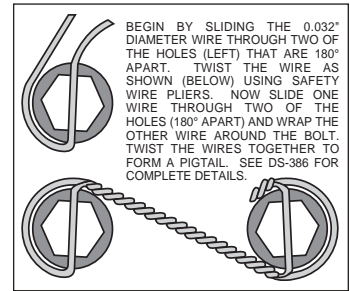
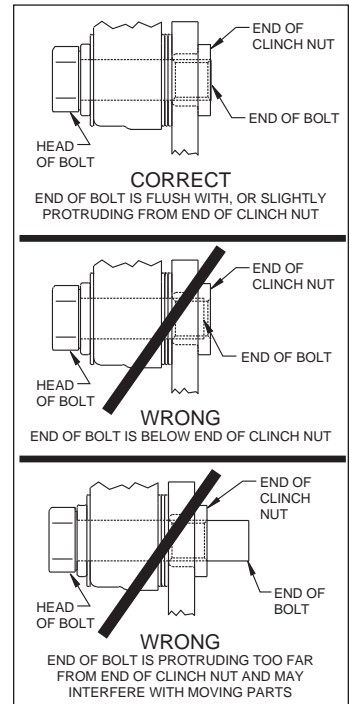

Figure 3. Safety Wire Diagram
Figure 4. Clinch Nut Engagement Diagram
Assembly Instructions (numbers in parenthesis refer to the parts list on the preceding page and Figure 1): **CAUTION:** All mounting bolts must fully engage clinch nuts. Be sure to check that all bolts are either flush or protruding through flanged side of clinch nut after shimming, Figure 4.
•Install the grease seal (11) by pressing into the backside of the hub (9), flush with the end of the hub, Photo 2.
•Orient the rotor (13) and the rotor adapter (12) as shown in Figure 1 and Photo 3, with the flat side of the rotor mounted to the rotor adapter. Attach the rotor to the adapter using bolts (14). Using an alternating sequence, apply red *Loctite*® 271 to the threads, and torque to 25 ft-lb. For an added measure of security, the bolts may be safety wired using standard 0.032 inch diameter stainless steel safety wire as shown in Figure 3. Please refer to Wilwood's data sheet DS-386 (available at www.wilwood.com/Pdf/DataSheets/ds386.pdf) for complete safety wire installation instructions.
- Pack the small outer bearing cone (16) with high temperature disc brake bearing grease and install into hub (9). Slide the hub/rotor assembly onto the spindle. Secure using spindle washer (24) and OEM spindle nut, Photo 5. Adjust bearings per OEM specifications. Install saved OEM nut lock (if any) and a new cotter pin (not supplied).
- Screw dust cap (18) into hub (9), Photo 6. Friction created by the o-ring (17) on the dust cap keeps it from unscrewing. **NOTE:** The O.D. of the existing OEM spindle washer may be larger than the I.D. of the dust cap not allowing it to seat against the hub face. Therefore, use the spindle washer (24) supplied with the kit instead of the OEM washer.
- NOTE:** Please reference the caution statement at the beginning of the assembly instructions. Mount the caliper (19) onto the caliper mounting bracket (1) using bolts (21) and washers (20), as shown in Figure 1. Initially place one .035" thick shim (22) on each bolt between the caliper and the bracket, Photo 7. Temporarily tighten the mounting bolts and view the rotor (13) through the top opening of the caliper. The rotor should be centered in the caliper, Photo 8. If not, adjust by adding or subtracting shims between the bracket and the caliper. Always use the same amount of shims on each of the two mounting bolts. **NOTE:** The end of each bolt must be flush with or slightly protruding from the head of the clinch nut, as shown in Figure 4. If necessary place spare shims between washer (20) and caliper mounting ear to achieve the proper clinch nut engagement. Once the caliper alignment and clinch nut engagement are correct, remove the bolts one at a time, apply red *Loctite*® 271 to bolt threads, and torque to 40 ft-lb. For an added measure of security, the bolts may be safety wired using standard 0.032 inch diameter stainless steel safety wire as shown in Figure 3. Please refer to Wilwood's data sheet DS-386 (available at www.wilwood.com/Pdf/DataSheets/ds386.pdf) for complete safety wire installation instructions.
- Install the disc brake pads (23) into the caliper, with the friction material facing the rotor (13), Photo 9, and secure in place using cotter pin (3), Photo 10.